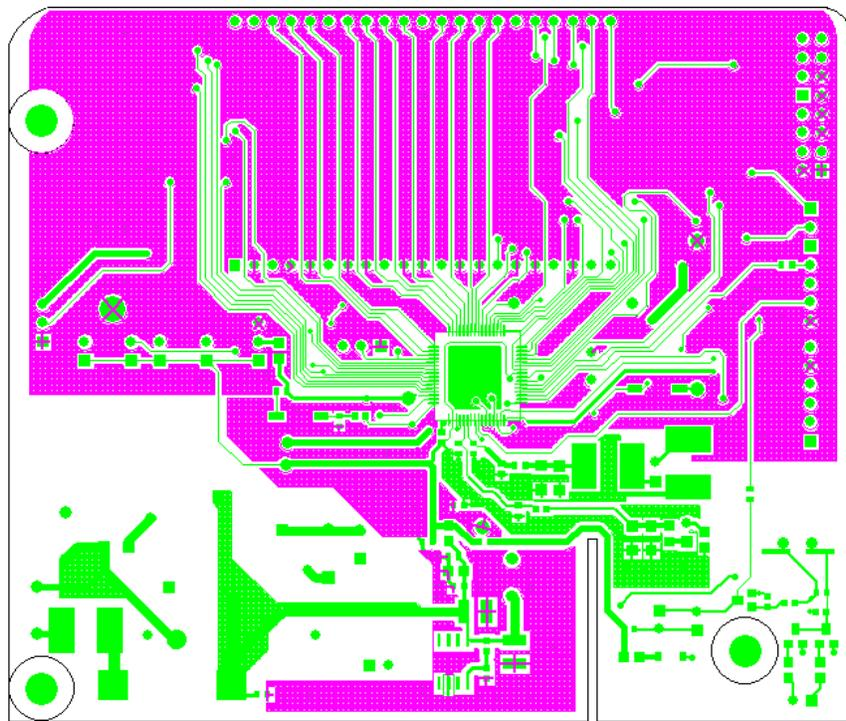

Figure 18: GND Copper on Top (Purple)
- Use the top layer for signal routing and for additional GND structures, as shown in Figure 18.